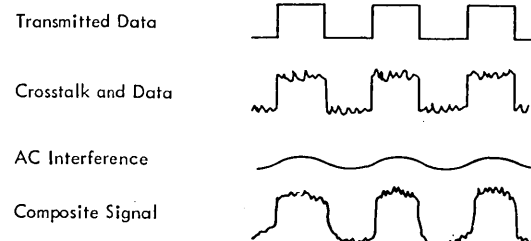

FIGURE 1-29. FORTUITOUS DISTORTION
3. Fortuitous Distortion. Fortuitous distortion (Figure 1-29) is caused by crossfire (cross-talk) between two or more circuits, atmospheric noise, power line induction, lightning storms, dirty transmitting contacts, and similar disturbances. It must be emphasized